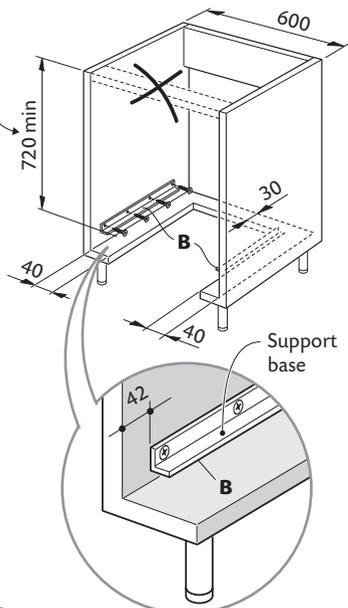

Fig. 38
- Remove the upper cross member support as indicated in figure 38.
- Cut the bottom of the housing as indicated in figure 38.